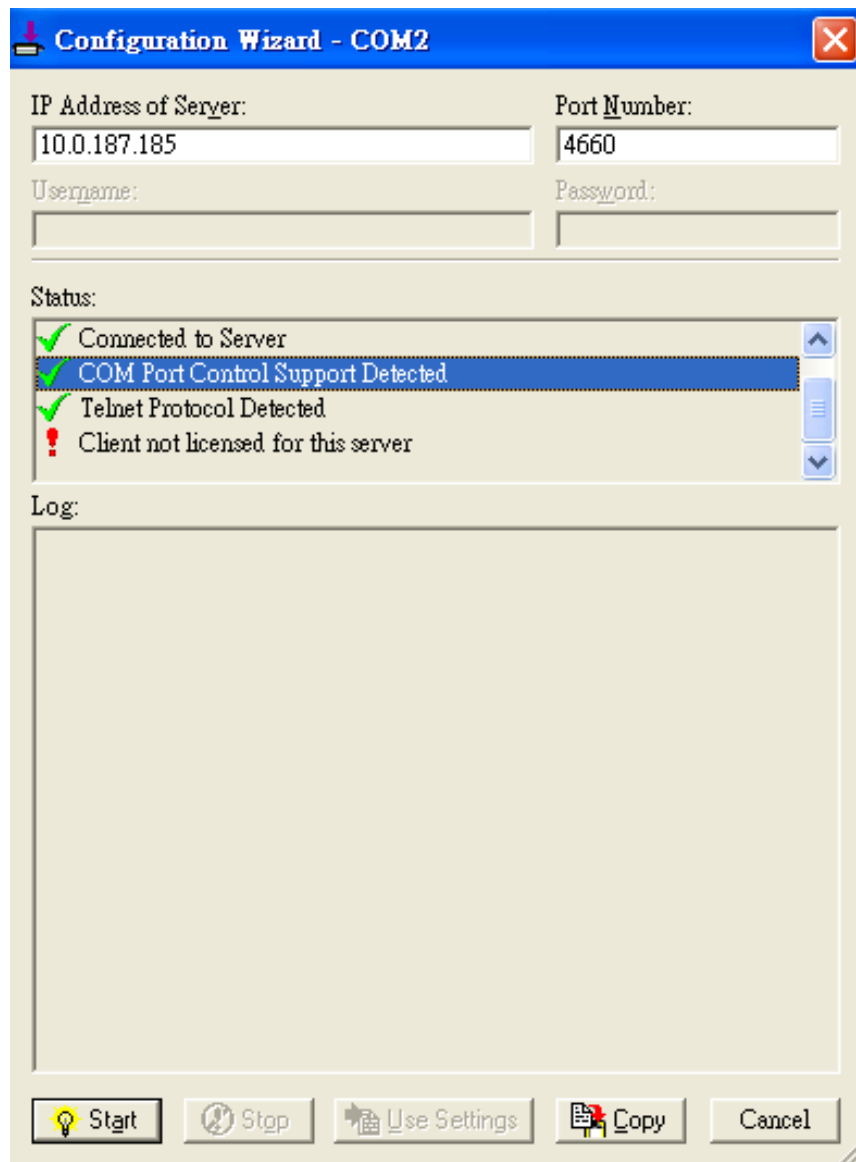

Figure 6.13 Licensing Issue of Serial/IP Utility Software
- If the status reports with a check with a message **“Telnet Protocol Detected”** and an exclamation mark with a message **“Client not licensed for this server”** as shown in Figure 6.13. This means that there is a licensing issue between the serial gateway (i.e. SE5201) and the Serial/IP Utility Software. Please contact Atop technical support to obtain the correct VCOM software.